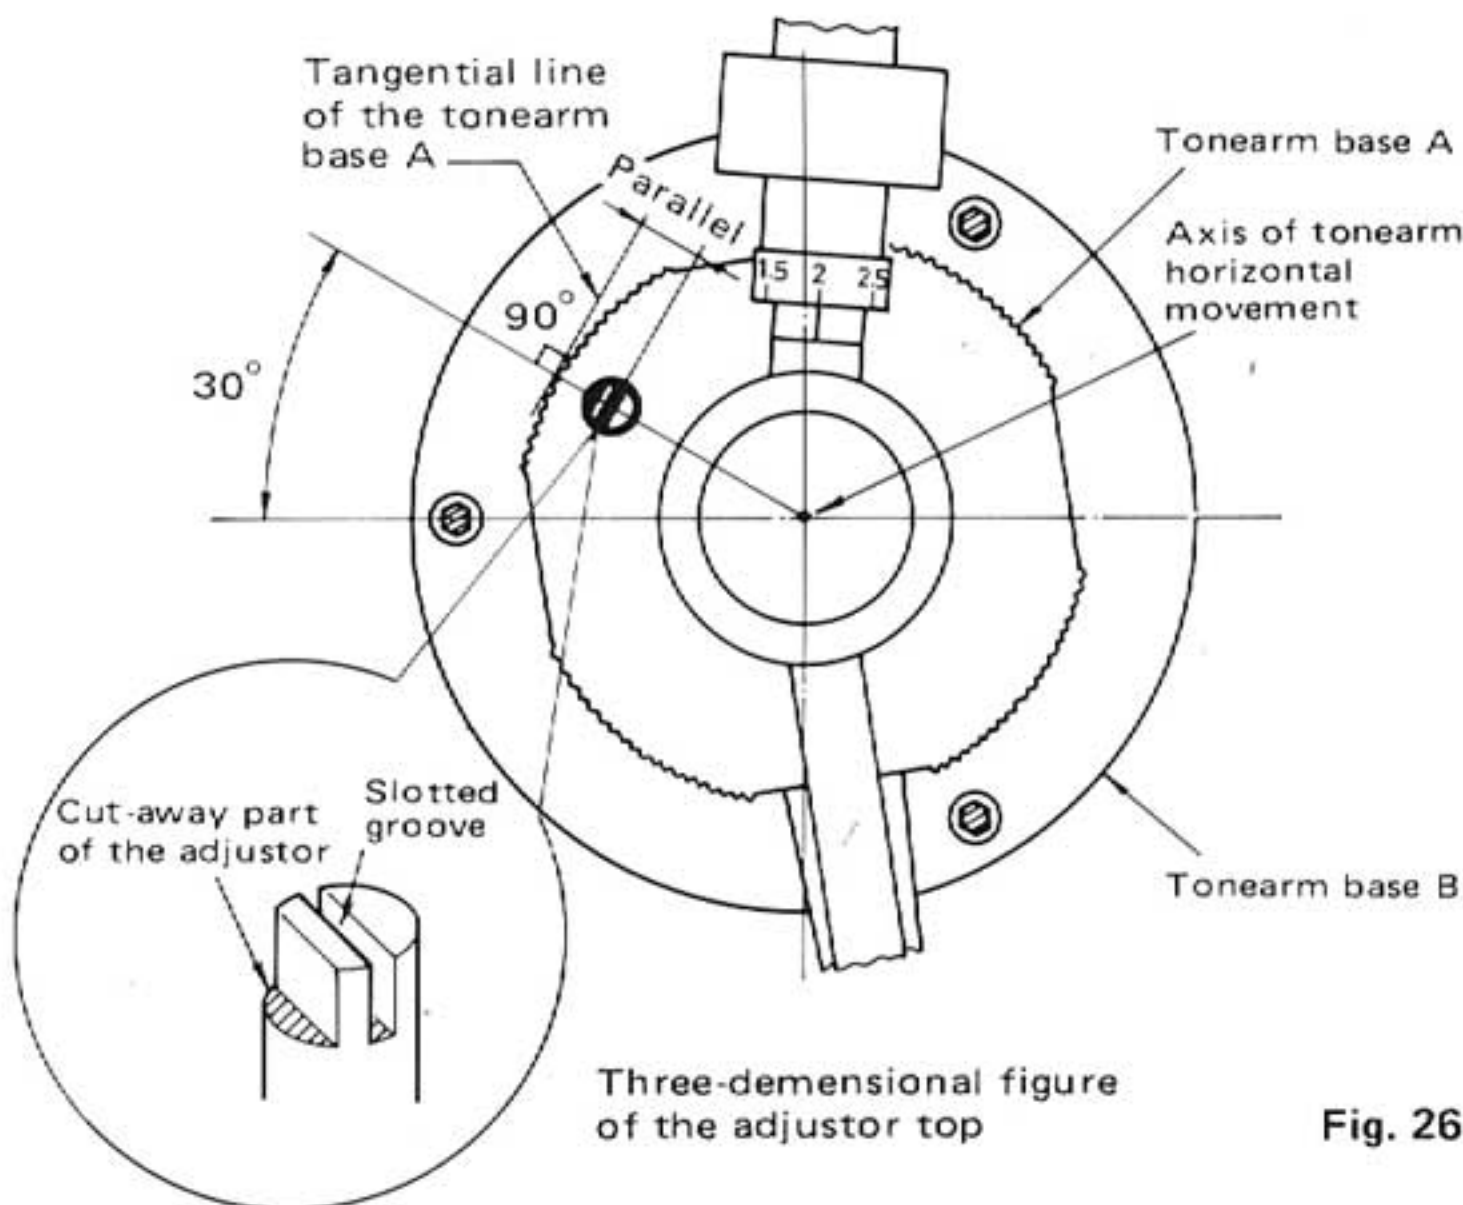

Fig. 26
- Adjust the slotted groove direction until it is parallel to the tangential line of the tonearm base A as shown in Fig. 26.